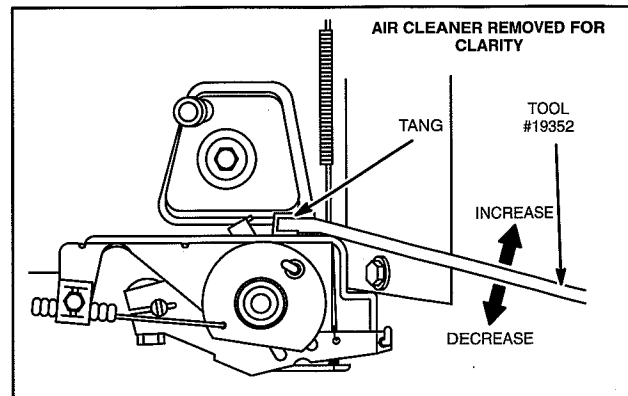

Fig. 20 – Adjusting Top No-Load Speed
6. Bend tang with Tool #19352 to obtain desired Top No Load RPM, Fig. 20.